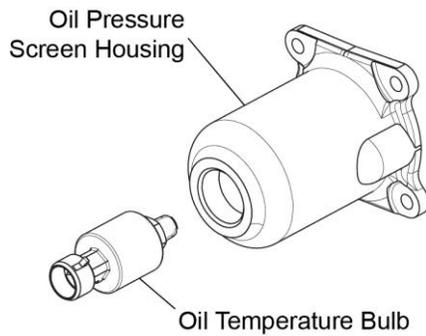
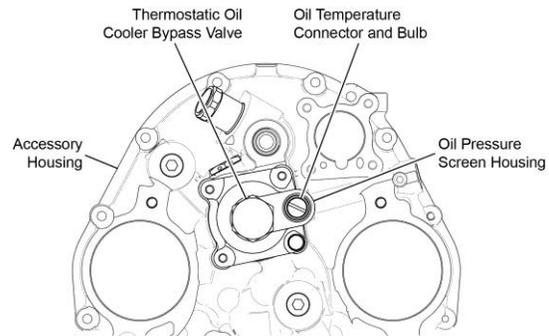

Figure 2
Figure 3
Engines equipped with a pressure-operated bypass valve have the location for connecting the oil temperature bulb concentric with the oil pressure screen (Figure 2) on the oil pressure screen housing. Engines equipped with a thermostatic oil cooler bypass valve have the location for connecting the oil temperature bulb beside the oil pressure screen (Figure 3) on the oil pressure screen housing.
4. Remove the oil temperature bulb from the end of the oil pressure screen housing (Figure 3).
15. Install the oil temperature bulb (Figure 2) and electrical connector with a new gasket P/N 06E19769-0.63 in the new oil pressure screen housing per the airframe manufacturer's instructions.